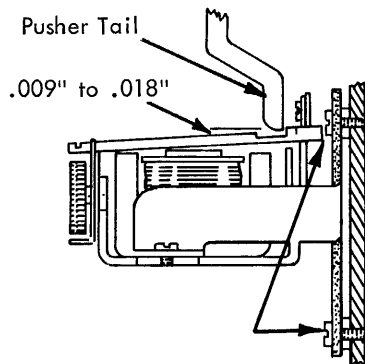

FIGURE 34.5 Mounting Bracket
7. Mounting Bracket (Fig. 34.5) - Position under its four mounting screws .009" to .018" clearance between the pusher tails and armatures.